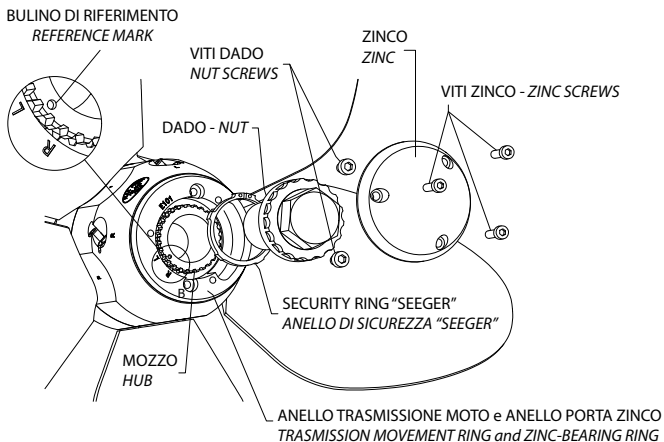

Fig. 7
look from stern to stem. If the shaft rotates clockwise, the rotation is right-handed; by contrast, if it rotates counterclockwise, the rotation is left-handed). In order to change rotation of the MAX PROP® WHISPER, from right-hand rotation to left-hand rotation or vice versa, operate as follows referring to fig. 7.
- If you reassemble the zinc-bearing ring, placing the tooth “R” at the tooth of the hub where the engraving is stamped, you will have a right-hand propeller, if you rather insert the ring placing the tooth “L” at the tooth of the hub where the engraving is stamped, you will have a left-hand propeller (see fig. 7).